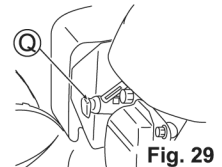

Fig. 29
1. Remove Plug cap (Q). (See Fig. 29)